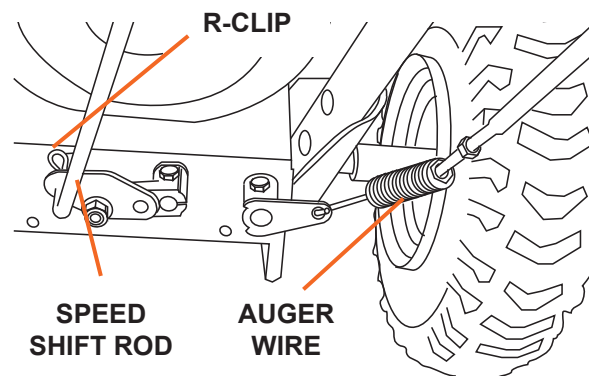

Figure 3
3. Attach the auger wire on the right side of the snow blower (see Figure 3). Remove the R-clip that connects the auger wire to the control lever on the handlebars, then slip the wire off. Attach the other end of the auger wire with the spring mechanism to the connection ring and reattach the auger wire to the control lever reinserting the R-clip. After connecting the wire adjust the tension. The wire should be taught when connected. (See Control Wire Adjustment, page 23 in the Operation Manual).
4. Attach the speed shift rod and secure with a R-clip that has been included in the hardware package (see Figure 3).